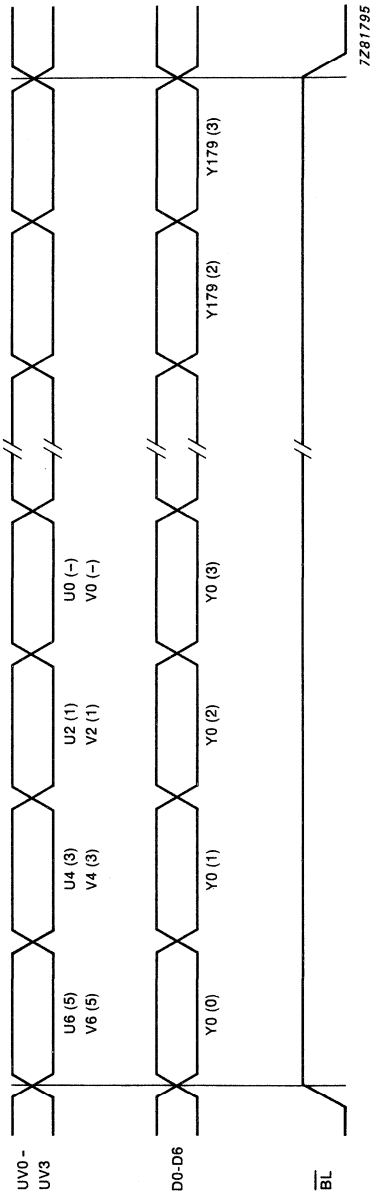

Fig.3 Data format.
**$\overline{BL}$  signal** (see Fig. 3)